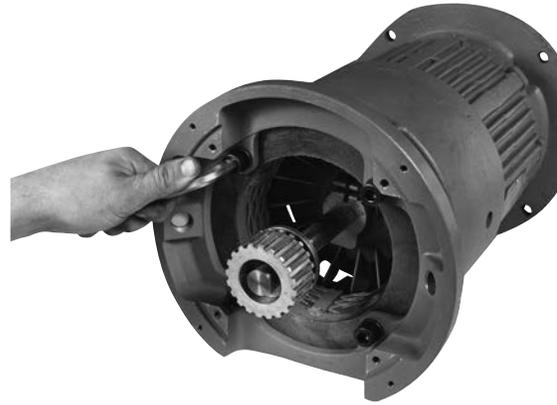

Figure 2
1. Mount the adapter to the C-flange end bell of the motor using capscrews and lockwashers. The flat side of the O.D. of the adapter should be mounted towards the bottom of the motor. (Figure 2)